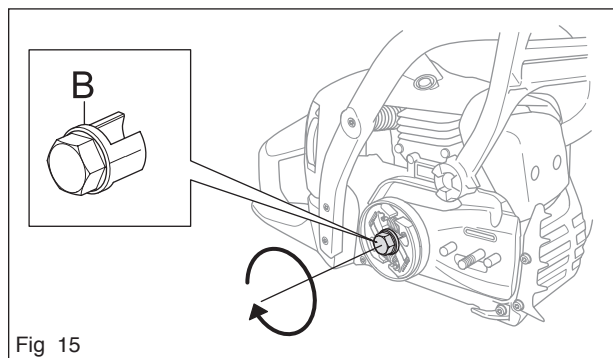

Fig 15
Unbolt the clutch using tool 502 54 16-03 (B) and a suitable socket or wrench. Turn the clutch clockwise to remove it (see figure 15).